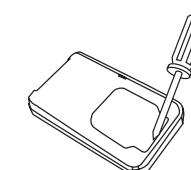

Fig. 2
2. Use a flat screwdriver as a lever to open the battery compartment. (Fig2)